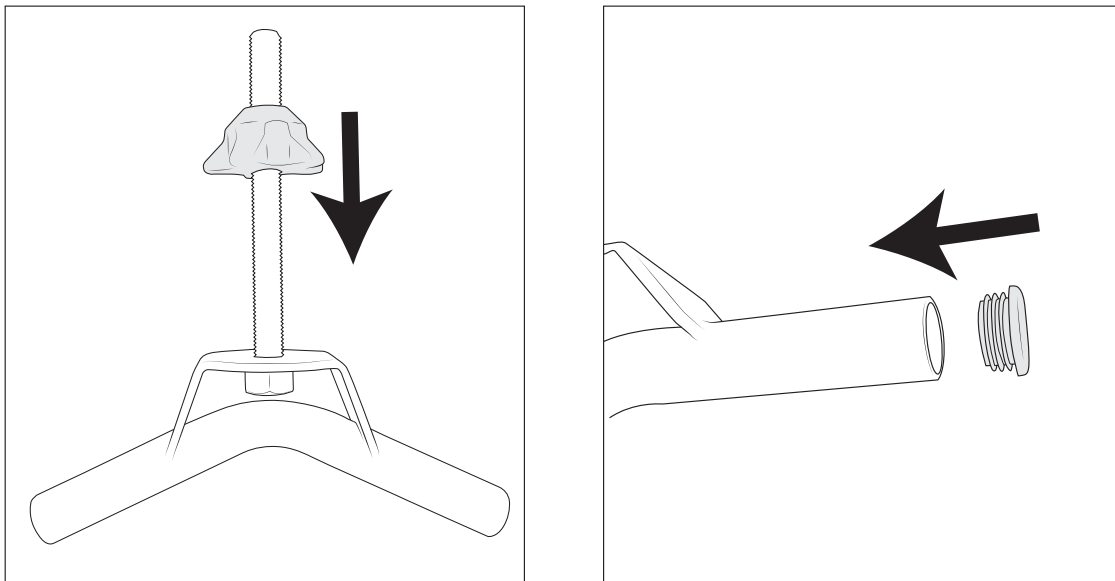

Figure 10
- Slide molded spacer onto threaded portion of handle (fig. 10).
- Install 1 1/2" end caps on to handle (fig. 10).